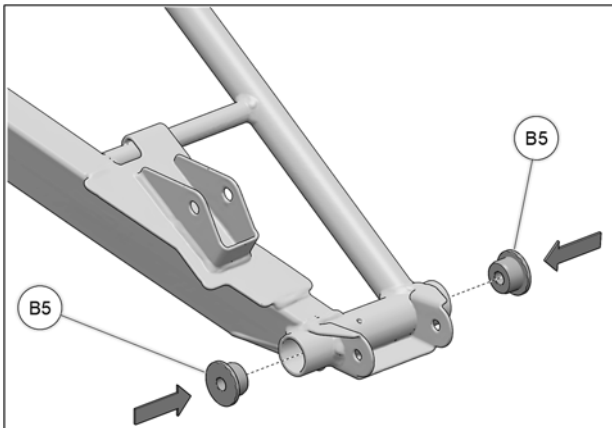

Fig. 5
- Insert step bushings (B5) at both ends of suspension arm tube, as shown below. See Fig. 5